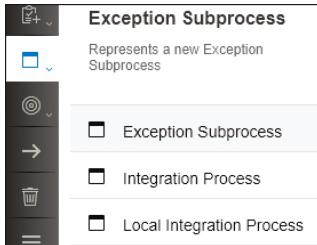

Figure 6.44 Selecting an Exception Subprocess in the Palette
1. Add an exception subprocess to the integration flow by selecting **Exception Subprocess** under the **Process** root node (Figure 6.44).